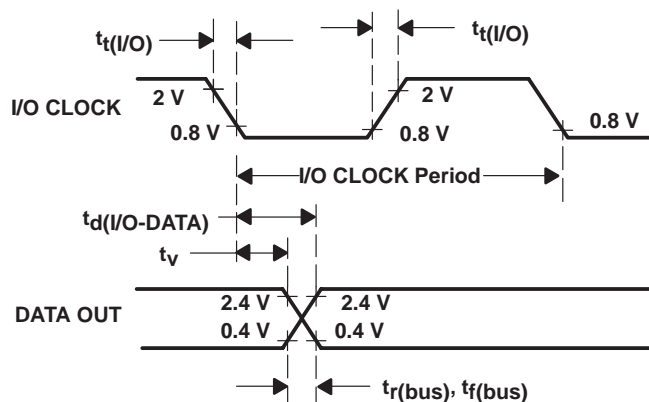

Figure 7. I/O CLOCK and DATA OUT Voltage Waveforms
- I/O CLOCK period = $1 / (\text{I/O CLOCK frequency})$ (see Figure 7).